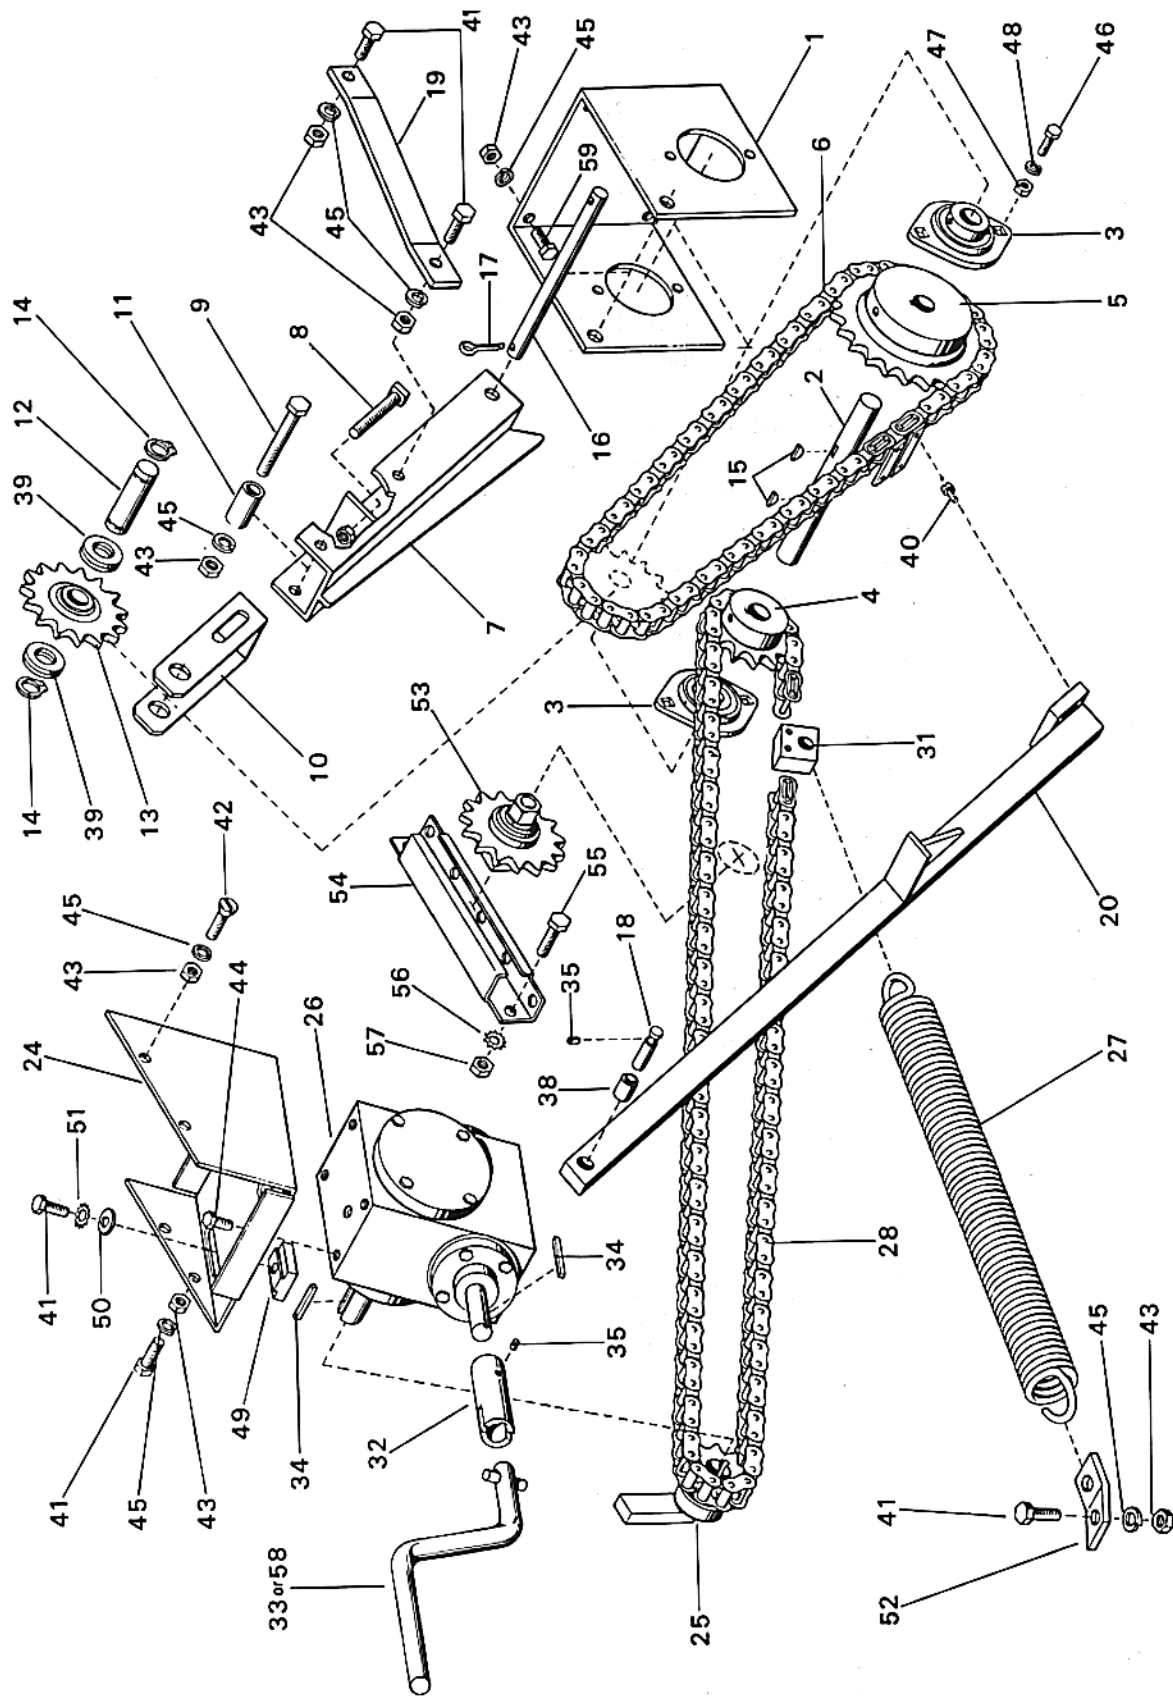

FIGURE 7 MANUAL LIFT SYSTEM
7. Manual Lift Parts (See Figure 7)